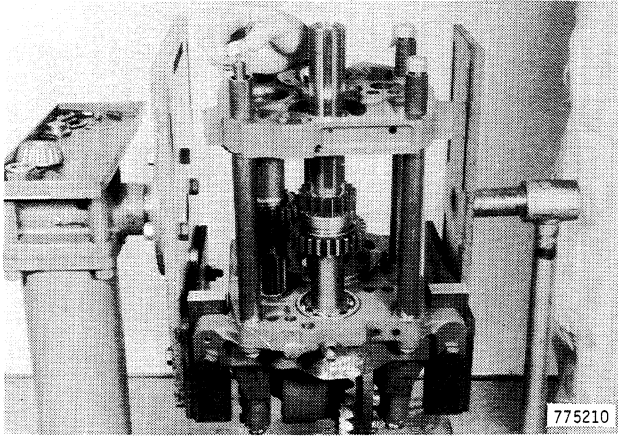

Figure 254
40. Remove self-locking nuts, Figure 254.